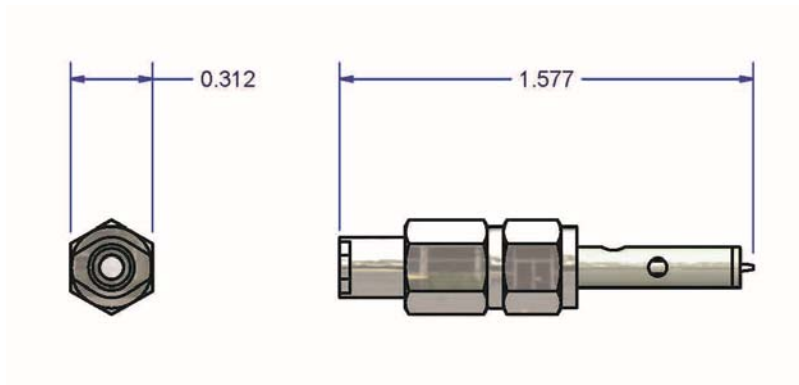

Figure 1 Physical Dimensions of MJ-AL-01 (in inches)
- Physical dimensions are shown in Figure 1.